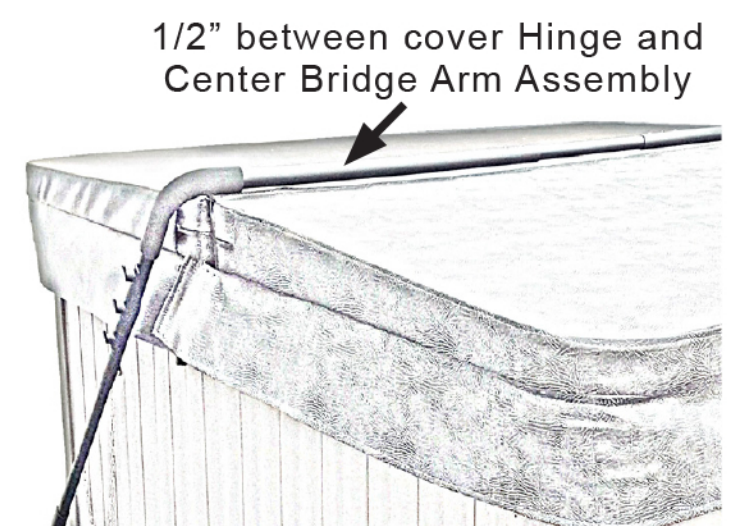

Figure 4
4 With the top section of the Lifter laying on the spa cover, adjust and center the **Center Bridge Arm** and **Top Corner Support Arms** so that the **Bridge Arm** is lying parallel to the spa cover's hinge about 1/2" away (See figure 4). Position the **Side Bridge Arms** in the center of the **Top and Lower Corner Arms** and attach with the **#10 self-tapping screws (J)**. Using the **#10 self-tapping screws**, fasten all **Corner Arms** and **Bridge Arms** together.